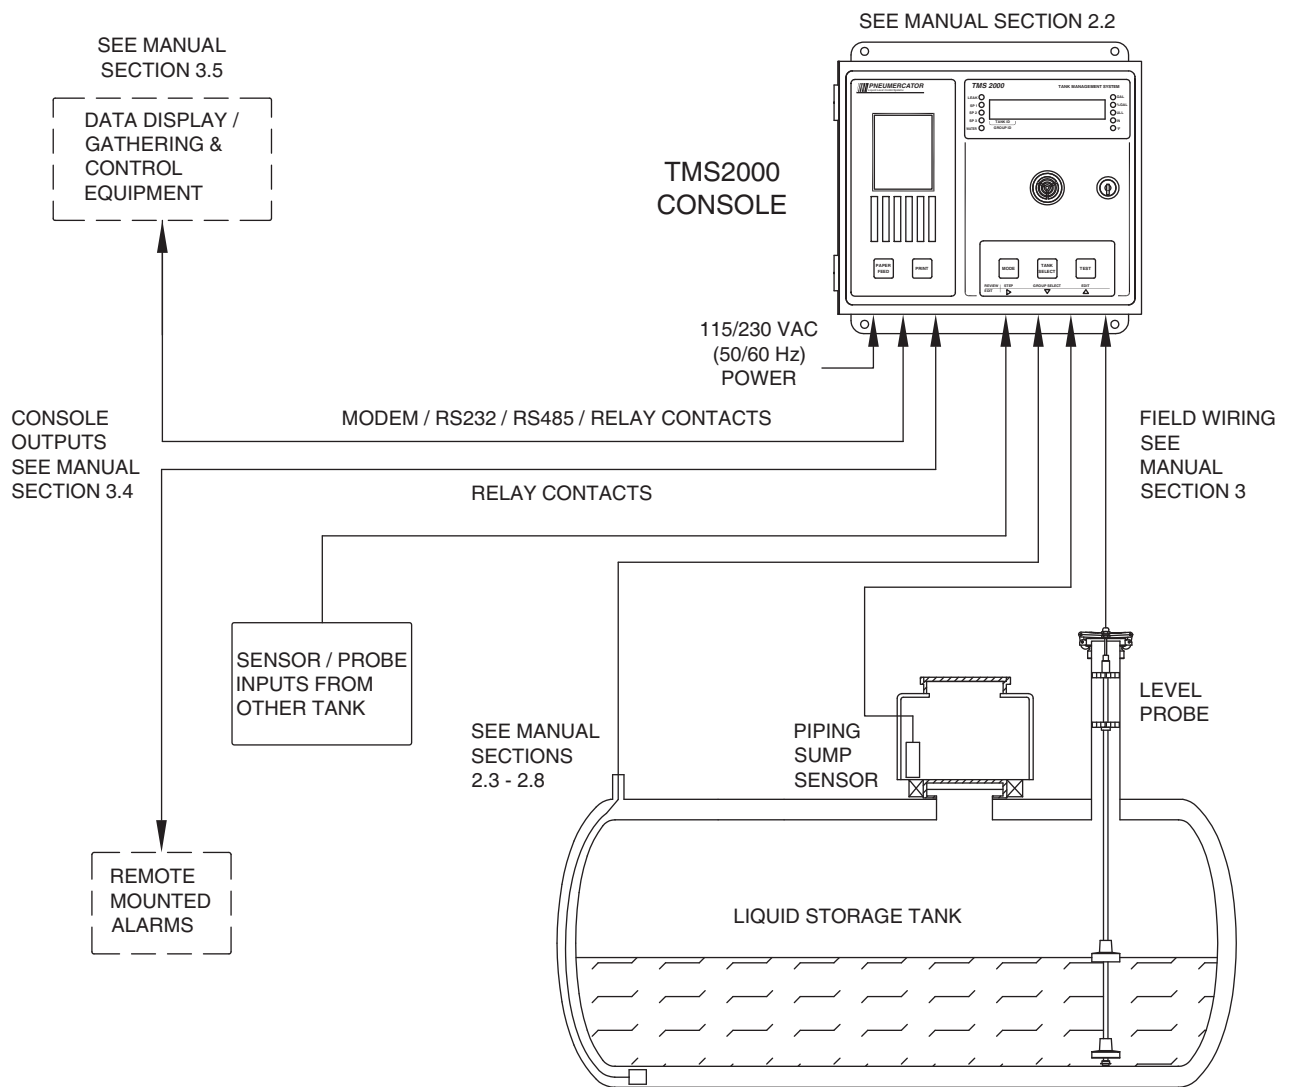

Figure 1-1 - Typical System Block Diagram
The TMS2000 is a fully integrated tank monitor system that combines level measurement with precision in-tank leak detection and external sensors for secondary containment. Figure 1-1 shows a typical block diagram of how a system should be configured for installation. This diagram is not a detailed wiring diagram, which is found in Section 3 of this manual. Figure 1-1 is to guide the installer in planning the actual installation, and give a general overview of the possible combinations of TANKS, LEVEL PROBES, EXTERNAL SENSORS, and OPTIONAL equipment that may be required for a typical installation. Figure 1-1 shows only one (1) tank with three (3) sensors: however, TMS2000 can monitor up to 2 tanks and 8 sensor combinations. Refer to the specific design drawing for the customer's actual site for complete site-specific details on how many tanks and sensors are specified.